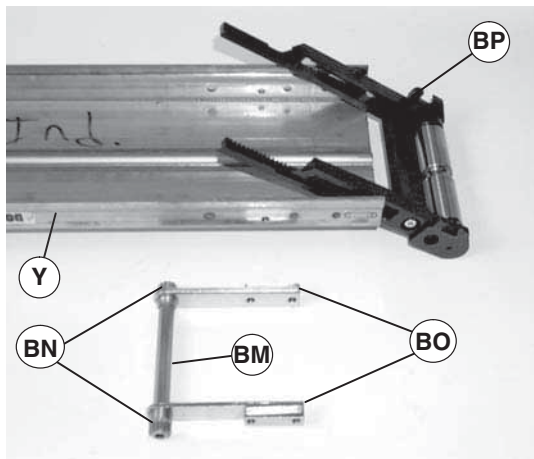

Figure 36
- Remove two pinion ends (Figure 36, item BN), clamp blocks (BO), hex pinion (BM) and tail assembly (BP) from conveyor (Y).